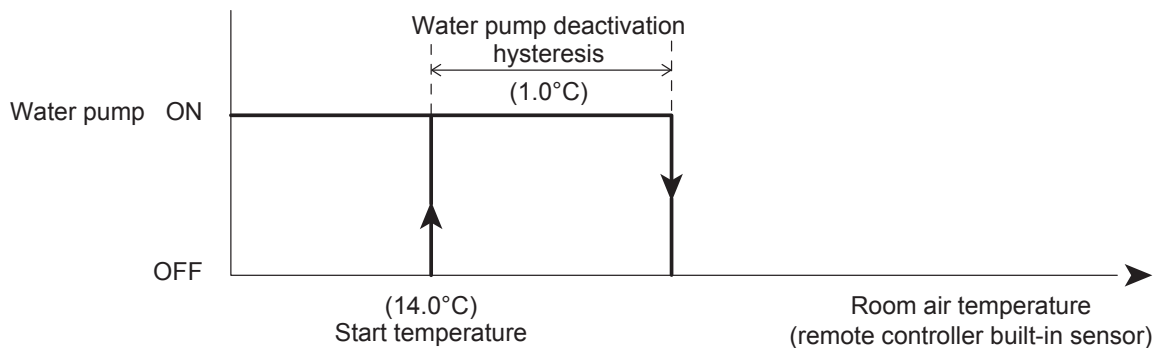

Figure 8-12: Frost protection (room air temperature) - water pump
- Room air temperature - refer to Section 8.4.3 and Figure 8-12.